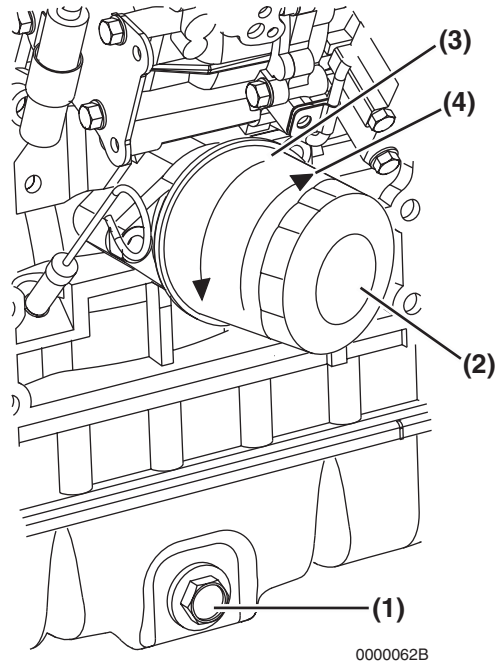

Figure 5-2
6. Remove the oil drain plug (**Figure 5-2, (1)**) from the engine oil pan. Allow oil to drain.
7. After all oil has been drained from the engine, reinstall the oil drain plug (**Figure 5-2, (1)**) and tighten to 14 - 17 ft·lb (19.6 - 23.5 N·m; 2.0 - 2.4 kgf·m).
1. Turn the engine oil filter (**Figure 5-2, (2)**) counterclockwise (**Figure 5-2, (3)**) using a filter wrench.
3. Lightly coat the gasket on the new oil filter with engine oil. Install the new engine oil filter manually by turning it clockwise (**Figure 5-2, (4)**) until it contacts the mounting surface. Tighten an additional 3/4 of a turn using the filter wrench.